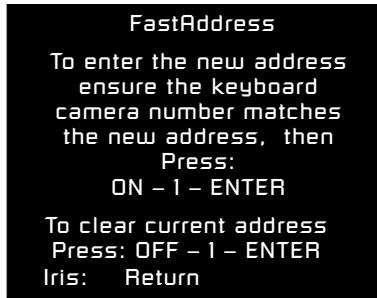

Figure FA2
- Enter the FastAddress mode using either method as described above and follow the instructions on the screen (see **Figure FA2**).